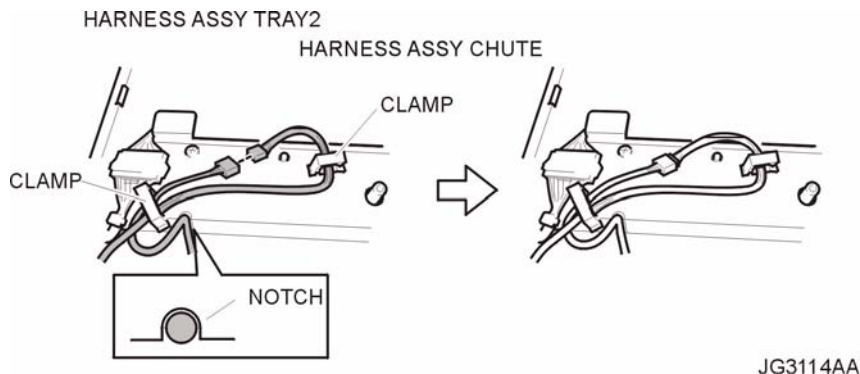

Figure 2. Harness Clamps
- 7) Release the holdings of the harness from 2 clamps on the PLATE TIE (PL 5.1) (Figure 2).